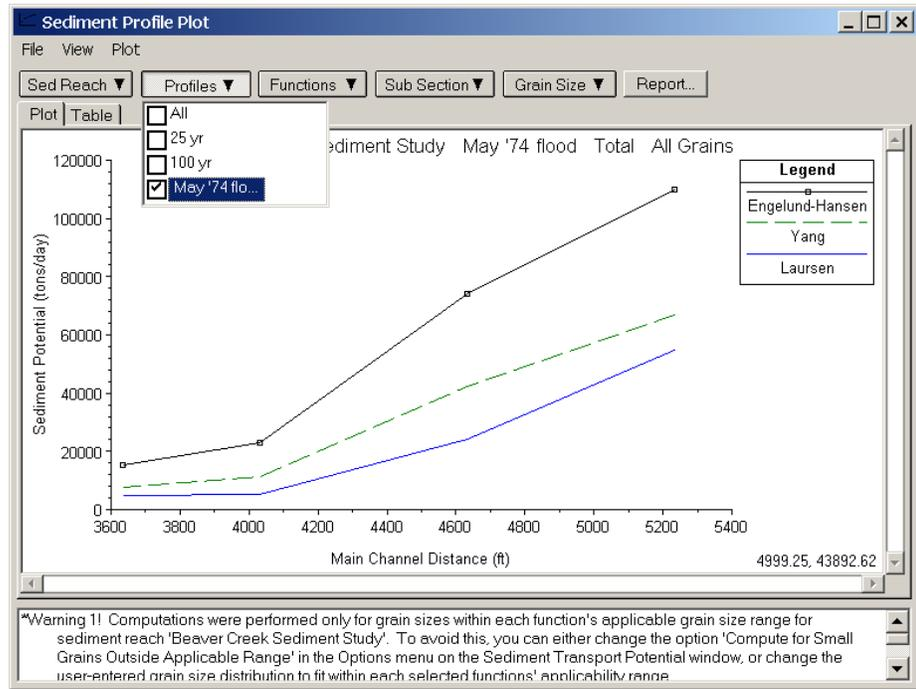

Figure 15.14 Sediment Transport Capacity Plot
**Sediment Transport Profile Plot/Table:** This button displays a plot of the sediment transport capacity rates along a selected sediment reach. It is only enabled once computations for that reach have been performed. Display options can be selected from the dropdown buttons. Figure 15.14 shows the sediment transport profile plot. In addition to viewing the plots, the table tab can be clicked to view in tabular form.